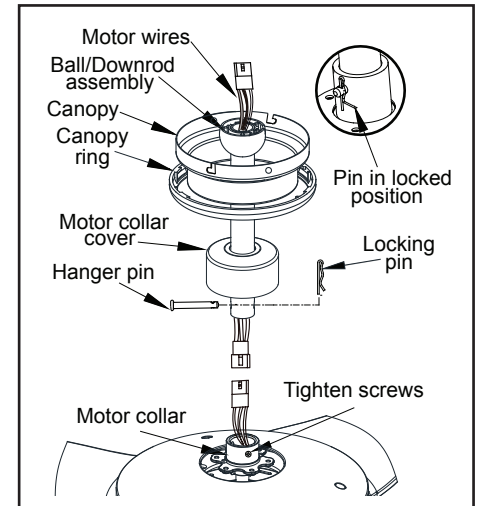

Figure 10
4. Place downrod over canopy and canopy ring, slide the motor collar cover onto the downrod. Connect the extension lead wires to the lead wires from motor. Make sure the quick connectors are clasped firmly. Route the wires through the ball/down rod assembly. (Figure 10)
6. Align the holes at the bottom of the downrod with the holes in the collar on top of the motor housing. (Figure 10) Carefully insert the hanger pin through the holes in the collar and downrod. Be careful not to jam the hanger pin against the wiring inside the downrod. Insert the locking pin through the hole near the end of the bolt until it snaps into its locked position, as noted in the circle inset of Figure 10.